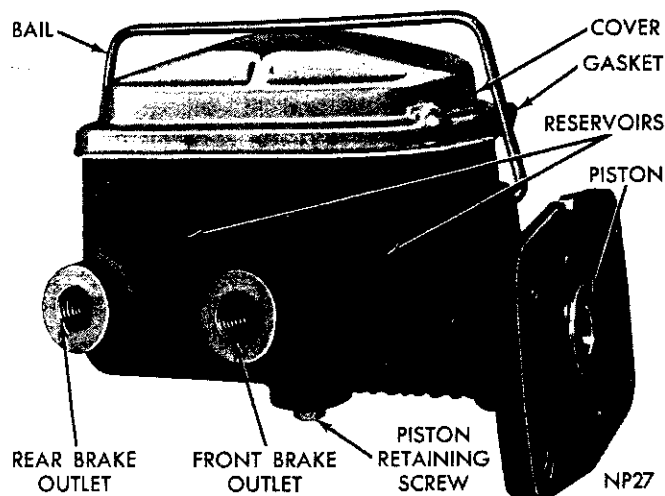
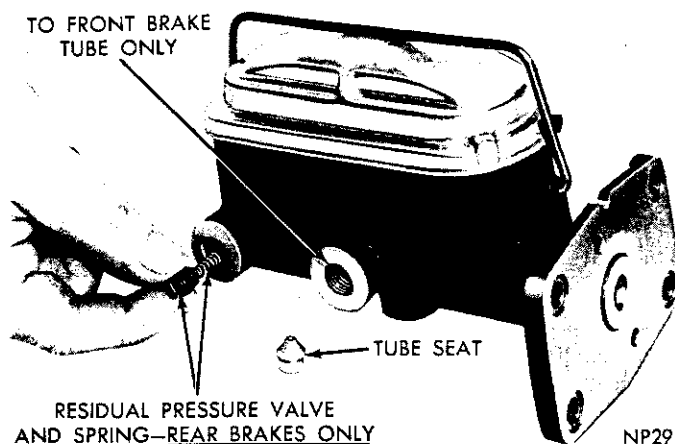

Fig. 1—Tandem Master Cylinder Assembly
Fig. 3—Removing or Installing Residual Pressure Valves and Springs
The tandem master cylinder (Fig. 1) is of the compensating type with the reservoirs cast integrally. The master cylinder consists of a front and rear piston (in tandem) two outlets, with 1 containing a residual pressure valve and spring (rear brake line outlet only), (Fig. 3).
To disassemble the master cylinder, (Figs. 1 and
(6) Remove residual pressure valve and spring from front outlet (Fig. 3).
(7) Remove rubber cups from pistons after noting position of cup lips. Do not remove center cup of rear piston. If cup is damaged or worn. Install a new rear piston assembly.
(4) Install residual pressure valve and spring (Fig. 3) in **front** outlet then install tube seats firmly. (When the bleeding tubes are attached, the tube seats will be positioned correctly.)